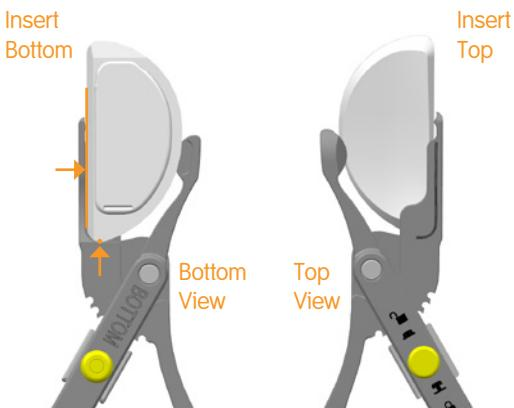

Figure 57
- 4 While holding the insert holder bottom side up, align the flat section of the insert against the flat section of the straight arm and push the insert into the corner as shown. Hold insert in position (Figure 57).